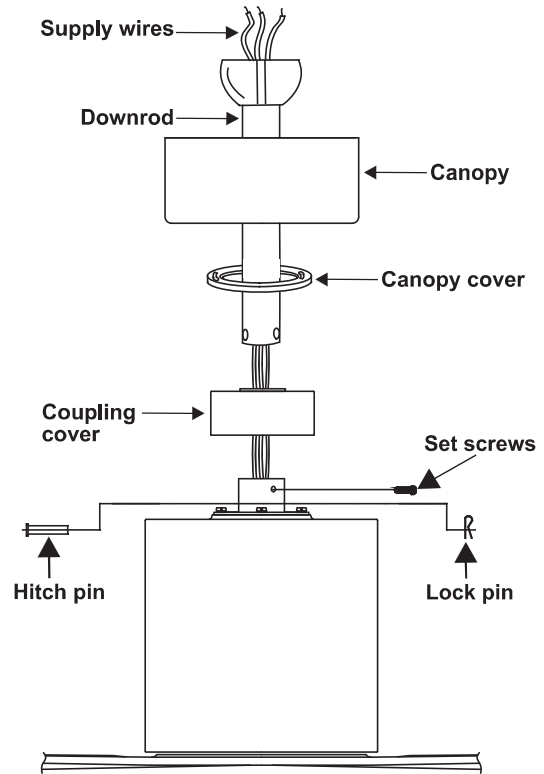

Figure 11
5. Loosen the two set screws and remove the hitch pin and lock pin from the central shaft/top coupling of the motor assembly. Doing so will allow the down rod to enter the central shaft. (Fig. 11)
6. Route wires exiting from the top of the fan motor through the coupling cover, canopy cover and canopy and then through the ball/downrod. (Fig. 11)
7. Align the holes at the bottom of the downrod with the holes in the collar on top of the motor housing. Carefully insert the hitch pin through the holes in the collar and downrod. Be careful not to jam the pin against the wiring inside the downrod. Insert the lock pin through the hole near the end of the hitch pin until it snaps into its locked position. (Fig. 11)